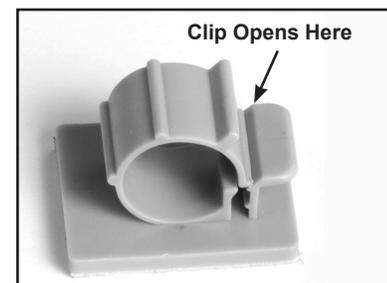

Figure 9 – Jack Clip
4. Insert the jack as shown (see figures 9 & 10). The clip should seat down onto the threaded portion of the jack, between the tip nut and the hex nut. The two washers should be next to the hex nut.